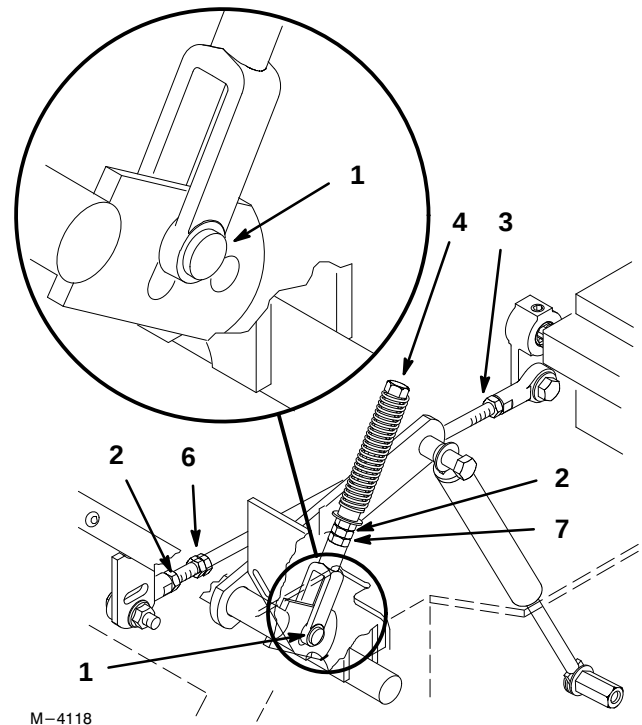

Figure 51
2. Begin with either the left or right motion control lever. Move lever to the neutral (but not locked) position and pull lever back until the clevis pin (on arm below pivot shaft) contacts the end of the slot (just beginning to put pressure on spring) (Fig. 51).
4. If adjustment is needed, loosen the nut against the yoke (Fig. 51).
5. Apply slight rearward pressure on the motion control lever, turn the head of the adjustment bolt in the appropriate direction until lever is centered in neutral lock position (keeping rearward pressure on the lever will keep the pin at the end of the slot and allow the adjustment bolt to move the lever to the appropriate position (Fig. 51).
4. Loosen locknut at ball joint on pump control rod (Fig. 51).
6. Adjust pump rod length by rotating double nuts on rod, in the appropriate direction, until wheel is still or slightly creeps in reverse (Fig. 51).